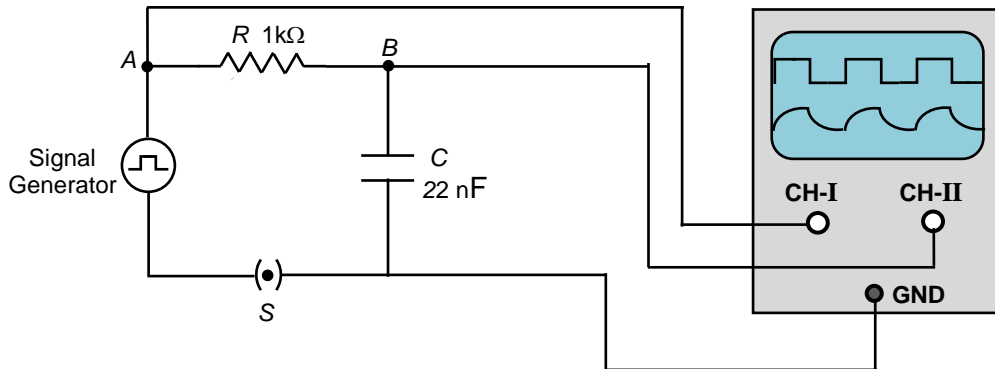

Fig. 3.7: Set up for the study of small time constant RC circuit.
1. Connect the circuit as shown in Fig. 3.7.
For example, if you use the same values of components as mentioned in Fig. 3.7 then the time constant of the circuit is